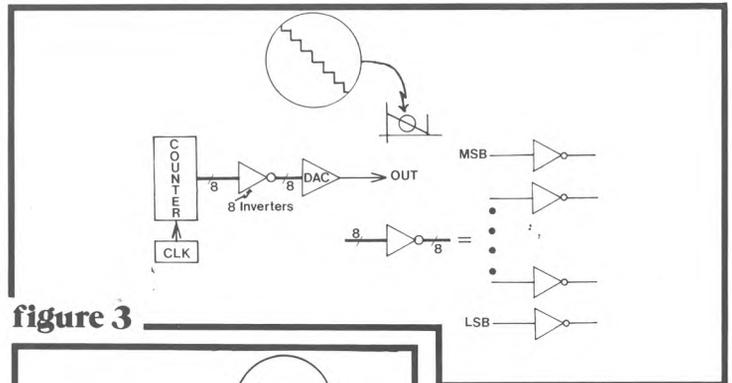
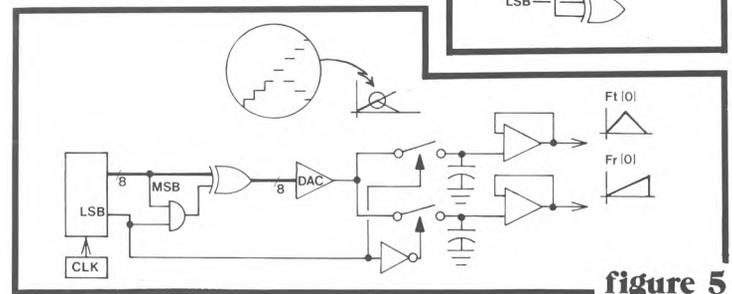

figure 3
figure 5
Having the counter count down, or inverting the counter output before it gets to the DAC, produces downward ramps (see figure 3).
If we're interested in generating only a single function pair, it's a simple matter to pick up a new Least Significant Bit on the counter and use it to effectively switch back and forth between the circuitry of figures 3 and 4, producing first a small section of the ramp, and then a small section of the triangle. This new LSB also switches between two sample-and-hold circuits to de-multiplex the composite output of the DAC. Figure 5 shows how a little more logic gives Fr(0) and Ft(0).
Figure 7 shows a block diagram of the complete Eight Phase Shepard Function Generator which results when we include an added IC to calculate digital phase offsets and de-multiplex the output with 8/1 analog switch ICs; figure 8 shows the schematic for the complete Shepard Function Generator. In the same way that the circuit of figure 5 alternately generated pieces of $Fr(0)$ and $Ft(0)$, the Shepard Function Generator sequentially puts out pieces of $Fr(0)$, $Ft(0)$, $Fr(1)$, $Ft(1)$, $Fr(2)$, ..., $Ft(6)$, $Fr(7)$, $Ft(7)$.
The next "Less Significant" bit can be thought of as switching back and forth between ramps and triangles, as in figure 5. And since figure 7 is a block diagram of our working Shepard Function Generator, and not just theoretical like the previous figures, the Least Significant Bit of the counter serves as a strobe which allows time for the DAC to settle
or off as with the CV bus switch, I found that it would be useful to be able to select one of two trigger bus lines to fire each ADSR/AR. In this way, for example, certain ADSRs/ARs can be triggered from one source, say the step trigger from the keyboard, while others on the bus are simultaneously triggered by other sources (LFO, pulse trigger from the keyboard, etc.) as shown in figure 5. But wait...note that the Bus Distribution panel still has dual inputs itself, allowing each of the two trigger bus lines to carry